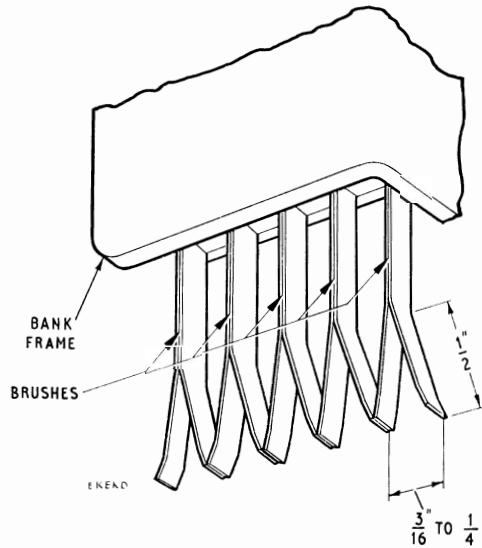

FIG. 4
5. Adjustment of brushes.—The two springs of each brush should lie flat against each other from their base to a point $\frac{1}{2}$ in. from the tips. From this point, the tips of the two springs should be set outwards so that there is a space of $\frac{3}{16}$ in. to $\frac{1}{4}$ in. between the tips (see Fig. 4). Each pair of brushes should be at right-angles to their mountings.